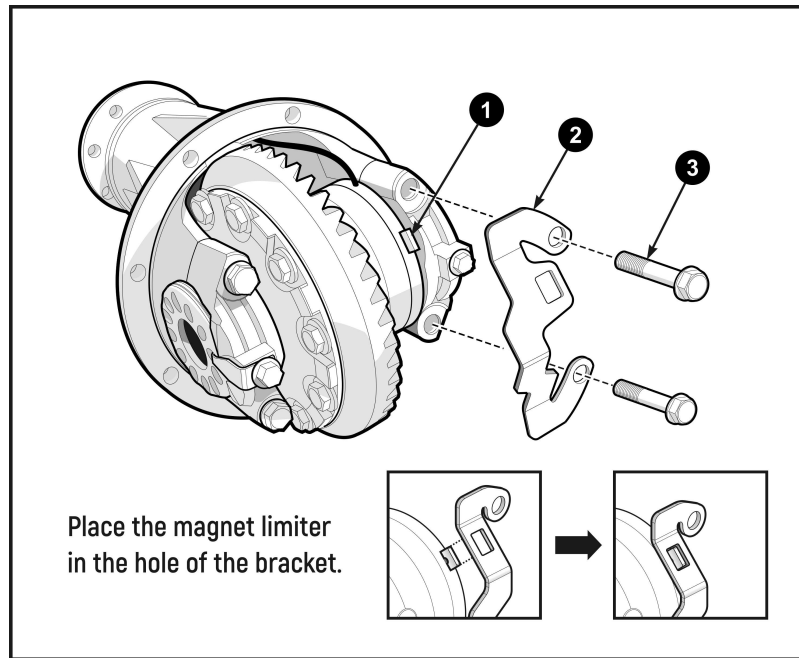

Fig. 29
- 3.23 Remove the bolts (3) from the right bearing cap. (Fig. 29)
- 3.24 Install the bracket (2) on the right bearing cap. Rotate the magnet so that the magnet limiter (1) engages the hole in the bracket (2). Install the bearing cap bolts (3) through the bracket and into the bearing cap, then tighten them. (Fig. 29).